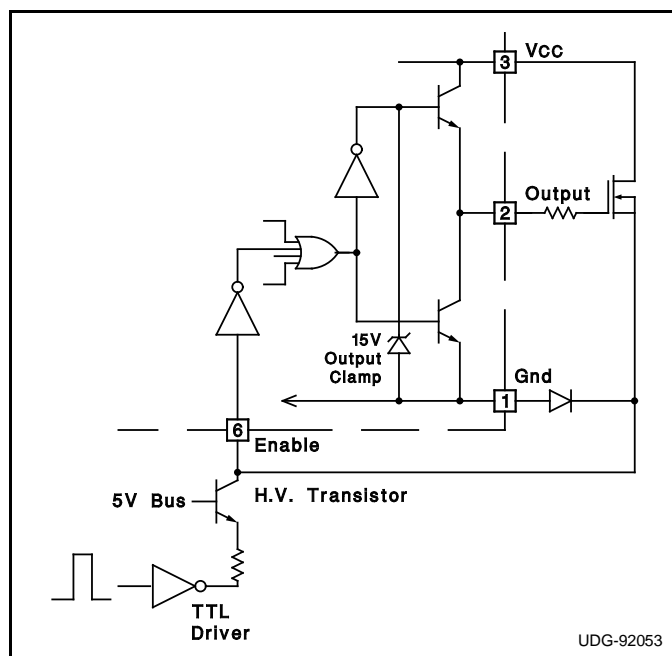

FIGURE 6 - Using Enable Pin as a High Speed Input Path
**ENABLE:** An enable pin is provided as a fast, digital input that can be used in a number of applications to directly switch the output. Figure 6 shows a simple means of providing a fast, high voltage translation by using a small signal, high voltage transistor in a cascode configuration. Note that the UC1725 is still used to provide power, drive and protection circuitry for the power FET.